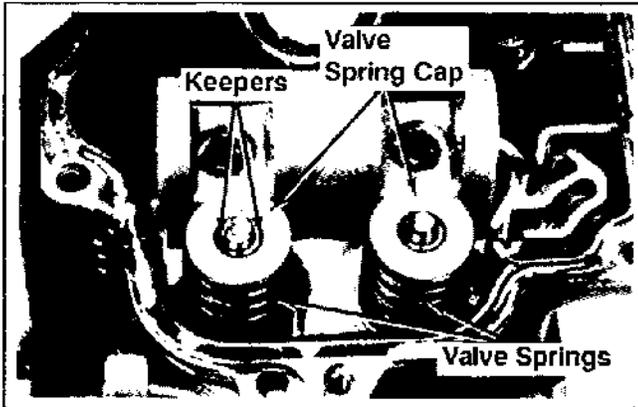

Figure 9-27. Removing Valves.
- b. Remove the keepers, valve spring caps, valve springs, exhaust valve rotator, intake valve spring seat, and intake valve stem seal. See Figures 9-27 and 9-28.